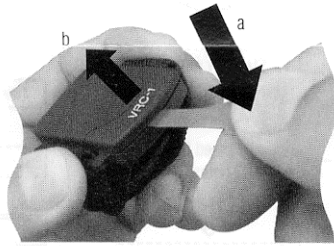

Fig. 7
1. Insert the metal plate into the groove of opposite side of LED. (Fig. 7)
2. Press down the metal plate (a) to lift up the rear cover (b). (Fig. 7) There are eight hinge stoppers. (Fig. 8) (Be careful to break the hinge stopper.)